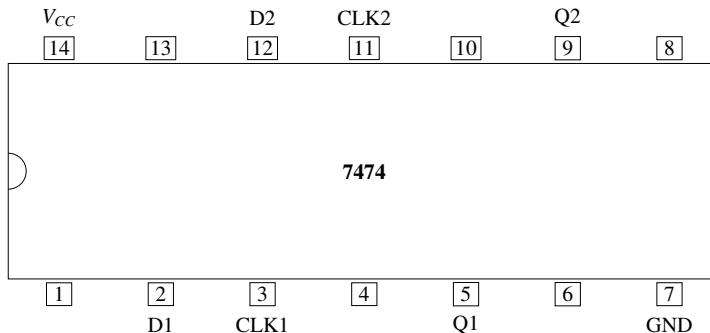
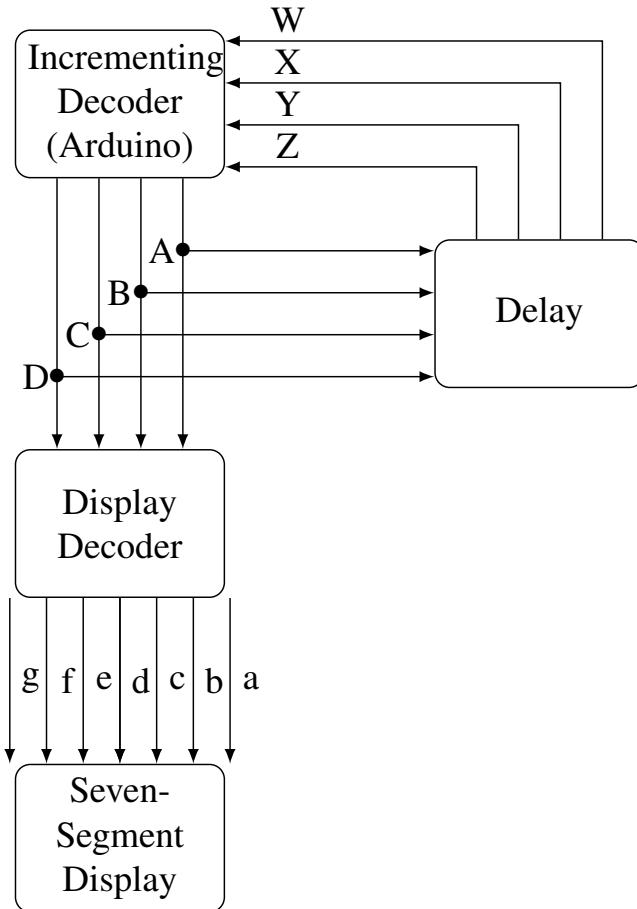

Fig. 5.1
Fig. 5.2
2. Connect the Arduino, 7447 and the two 7474 ICs according to Table 5.1 and Fig. 5.2. The pin diagram for 7474 is available in Fig. 5.1
to realize the decade counter in Fig. 5.2.